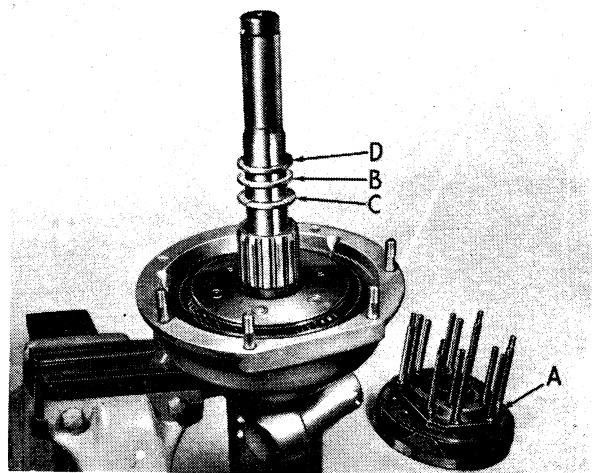
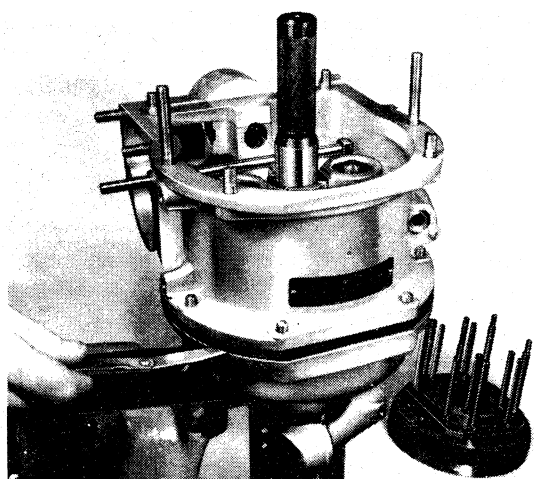

Fig. 25 Selecting a suitable Adjustment Washer to give the Sun Wheel End Float.
Fig. 26 Gauging the Sun Wheel End Float.
The next thing is to select a suitable adjustment washer to allow the correct amount of end float to the sun wheel. The steel thrust washer (B) (Fig. 25) which is fitted between the bronze thrust washer (C) (Fig. 25) and the central bush (4) (Fig. 4) in the main casing, serves also to make this adjustment and is supplied in various thicknesses to suit the assembly. Gauging the end float of the sun wheel can be done easily with ordinary feeler gauges as follows :—
Place the bronze washer (C) (Fig. 25) and the steel washer (B) (Fig. 25) in position at the front of the sun wheel. The cone clutch (A) (Fig. 25) should be left out while the thrust washer is being selected. Place the extra steel adjustment washer (D) of known thickness on top of the steel washer (B), and offer up the main casing assembly to the tail casing assembly. It will not go right down because of the extra washer, and the gap left between the two casings should be measured with feeler gauges (Fig. 26).
As soon as the end float of the sun wheel is correct, re-assembly can quickly be completed. Separate the two casings, remove the extra thrust washer, fit the cone clutch assembly (A) (Fig. 25) in place, offer up the main casing to the tail casing, fit the nuts and spring washers on to the studs and tighten up evenly. The bridge pieces for the operating pistons should now be fixed in place and the clutch thrust springs placed in position on the pegs. Ensure that the eight springs are correctly located as shown in Fig. 34, that is, the long springs on the outside and the short springs nearer the centre. The dummy shaft should now be withdrawn and the unit is ready for fixing to the gearbox. If not required for immediate fixing to the gearbox the adapter plate or wooden cover should be fitted before putting the unit into store.